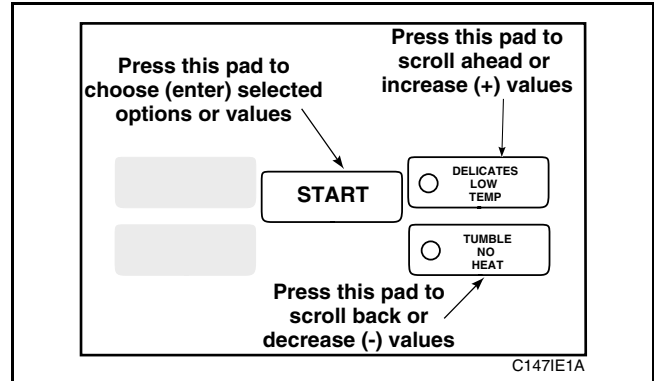

Figure 66
- Press the LOW TEMP (+) pad or the NO HEAT (-) pad to increase or decrease the current number of minutes to the desired number of minutes, *Figure 66*.